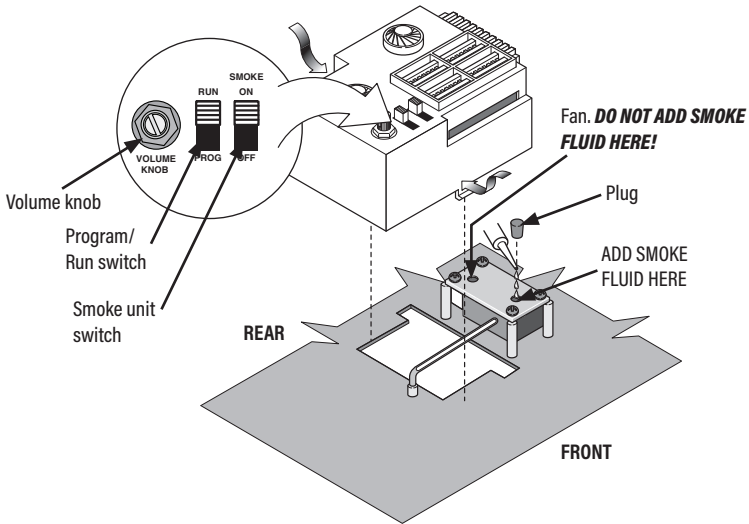

Figure 2. Smoke unit location
**B**efore you operate your Rocket Launcher, be sure to add smoke fluid to the smoke unit. Never operate this accessory without smoke fluid. To add the fluid, squeeze the sides and lift up the block house as illustrated in Figure 2. Remove the small plug and add 8-10 drops of smoke fluid. Add several more drops as smoke production decreases.
1. Slide the program run switch on the smoke generator cover to the PROG position. See Figure 2 on page 4.